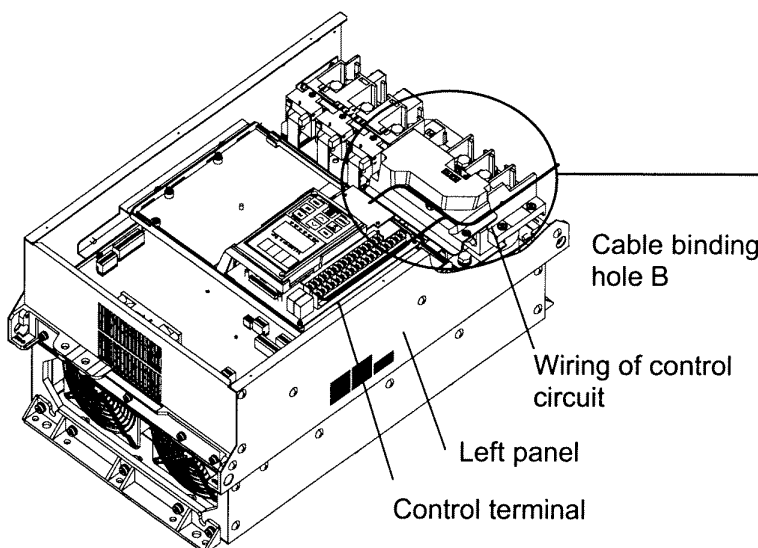

Fig. 2-3-15 The wiring route of the control circuit
(5) Wiring of control circuit (inverter of 40HP or more)
- ① Pull out the control circuit wiring along the left panel as shown in Fig. 2-3-15.
- ② Secure the cable to cable binding hole A (on the left wall of the main circuit terminal block) using a cable-tie (e.g., insulock). The cable-tie must not exceed 0.14inch (3.5mm) in width and 0.06inch (1.5mm) in thickness.
- ③ When the optional PC board is mounted, the signal lines must be secured to cable binding hole B.